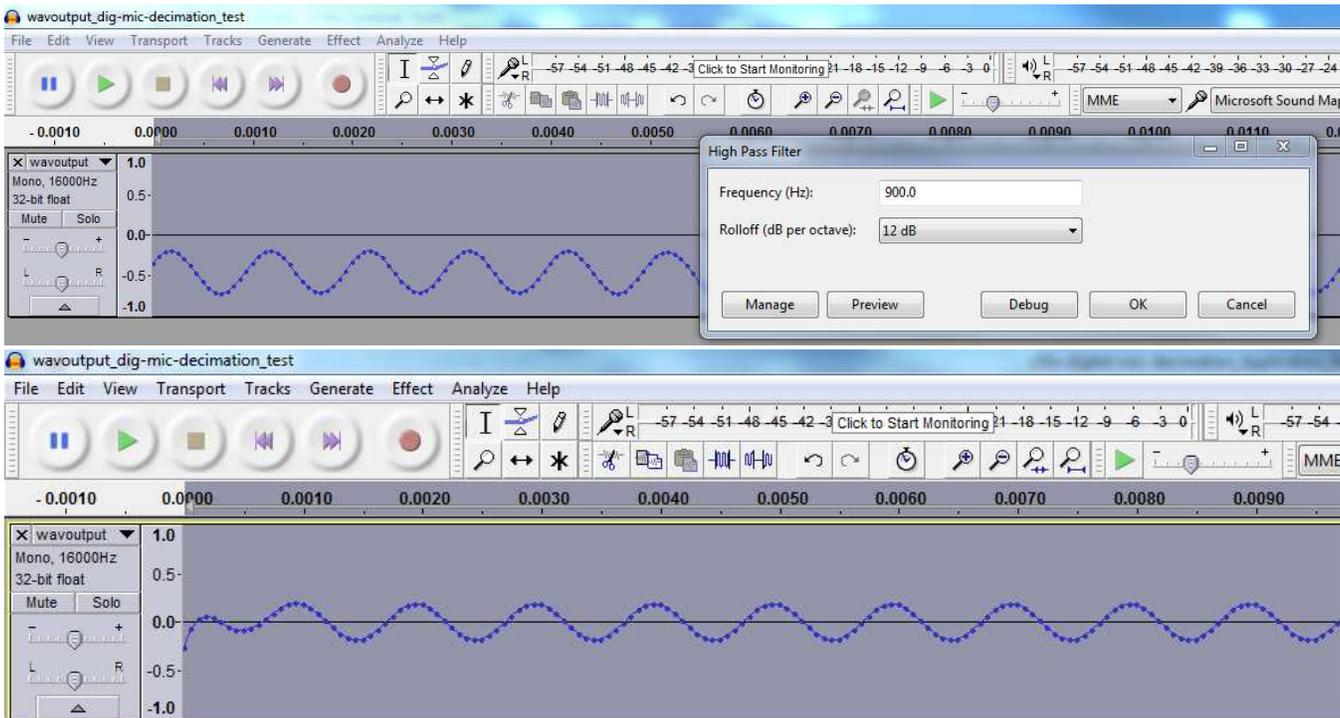

Figure 24. Applying a High-Pass Filter to the Audio Sample in Audacity to Remove the DC Offset
20. An HPF can be used in Audacity by going to Effect → High Pass Filter and choosing the suitable HPF parameters as seen in Figure 24.